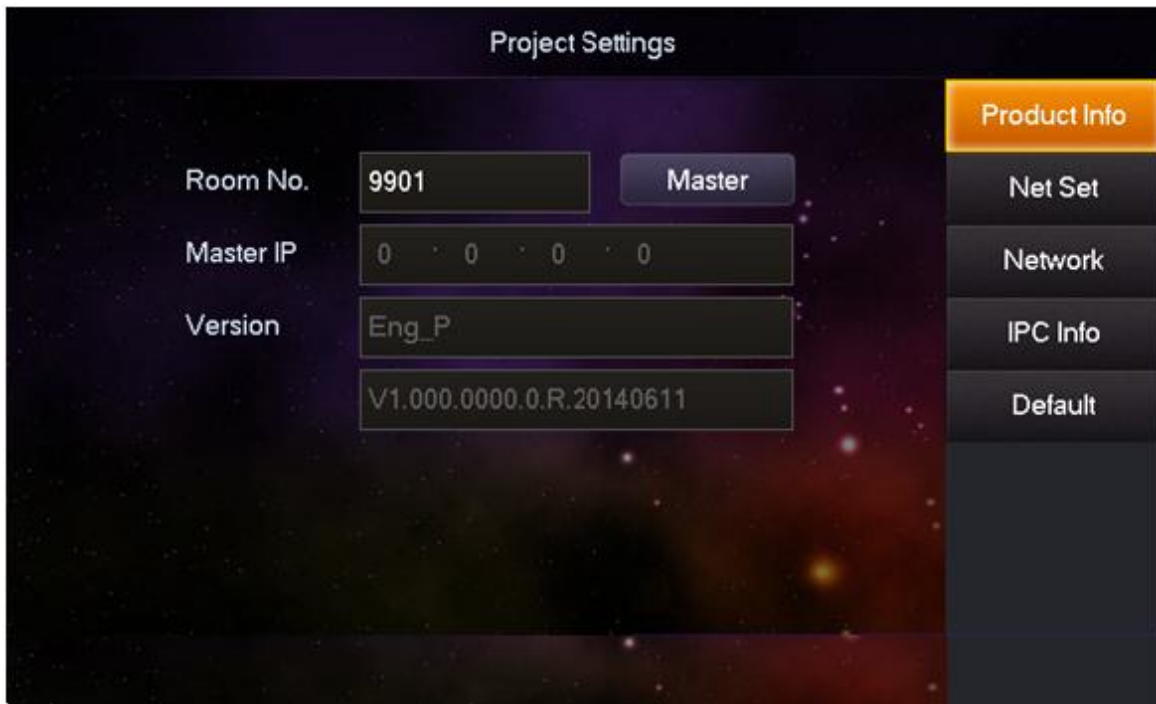

Figure 2- 2 Local
Step 1. In Project Settings interface, select System Settings>Project Settings and enter password (002236) to enter Project Settings interface. See Figure 2- 2.